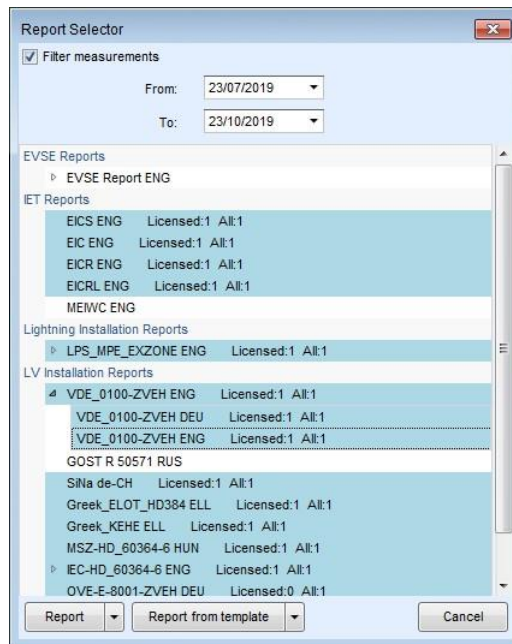

Figure 10.1: Report form selector box
- Click on  icon within Reports group of Home menu tab to open Report form selector dialog box, **Figure 10.1**.